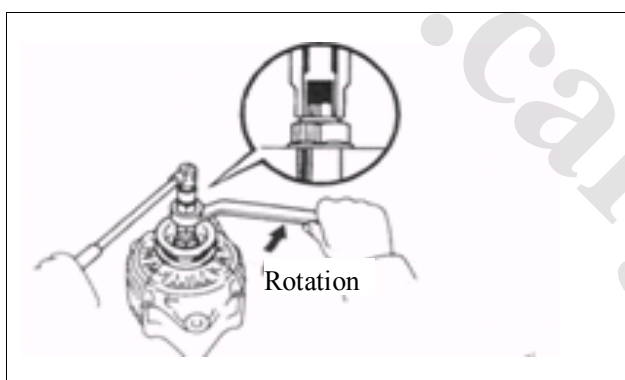

Fig. 418-1
Rotate special tool (B) and remove special tool (A and B). (See Fig. 418-1)